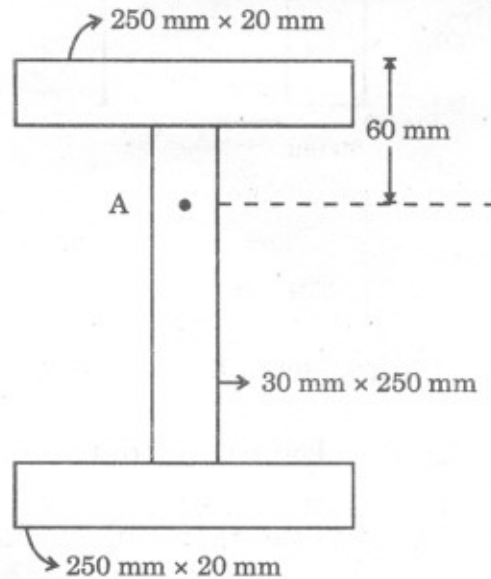

Fig. 6.1
6. (a) A cantilever beam carrying u.d.l. 20 kN/m throughout its span has cross-section as shown in Fig. 6.1. At a cross-section 0.85 m from free end, determine the largest shear stress and shearing stress at point 'A'. Assume span of 5 m. [8]